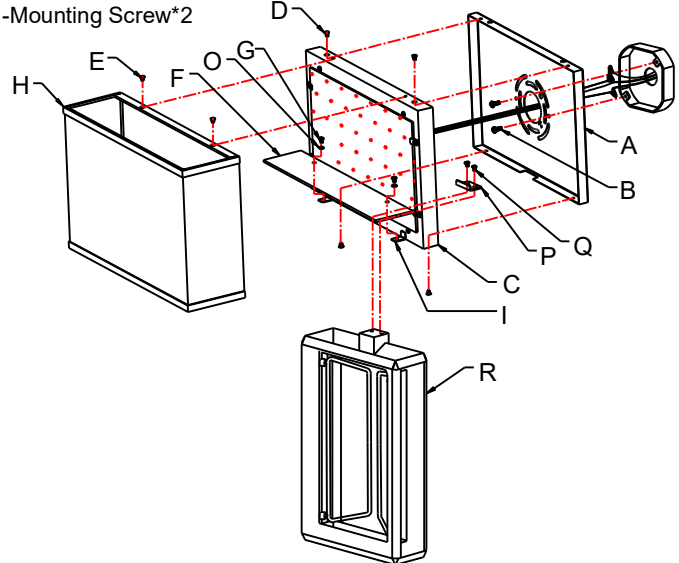

Fig. 2
CONNECTING THE WIRES (FIG. 2)
5. Connect the electrical wires as shown in Fig. 2, making sure that all wire connectors are secured. If your junction box has a ground wire (green or bare copper), connect the fixtures ground wire to it. Otherwise, connect the fixture ground wire directly to the mounting plate (A) using the green screw provided. After wires are connected, tuck them carefully inside the junction box.
6. Align fixture back plate (C) onto mounting plate (A) and secure with screws (D).